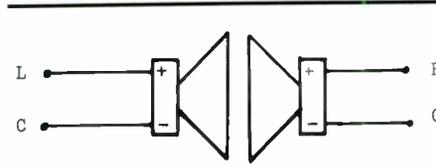
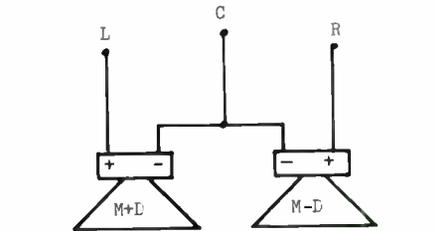

FIGURE 1: In the standard stereo speaker connection, two speakers are connected to two separate amplifiers. The independent impedance is Z .
FIGURE 2: With the common wires connected, the standard stereo system has a mono impedance, difference impedance and effective impedance of Z .
First, however, refer to Fig. 1, which shows the standard stereo speaker connection. Two speakers are connected to two separate amplifiers, each of which can be considered to have one wire with a signal and one wire as a common ground. This arrangement is redrawn in Fig. 2 with the common wires connected. Figure 1 shows that all of the left signal appears exclusively in the left speaker and all of the right signal in the right speaker. Figure 2 shows the left and right signals redefined. I used a monophonic signal, M , common to both channels, and a difference signal, D , which is the difference between the two channels.
I chose the configurations in Figs. 3-8 to maximize the extraction of ambient information, while keeping the impedances seen by the amplifier channels at or above the levels seen in the standard stereo connection. The impedance of each speaker in Fig. 1 is defined as Z, so each amplifier sees an independent impedance of Z.
Figure 2 is more difficult, however, since it has two signals to consider. The easiest way to figure the mono impedance seen by each amplifier is to mentally short point L to point R and compute the impedance between that point and point C. Doubling this value produces the mono impedance (MI). To find the impedance seen by the difference signal, mentally open-circuit (disconnect) point C and compute the impedance from point L to point R. Half of this value is the difference impedance (DI). The overall effective impedance, then, is given by the following formula:
Fig. 2 configuration, of course, but the values for Figs. 3-8 are somewhat different. The independent impedance is most easily found in Figs. 3-8 by shorting point R to point C and computing the impedance from that point to point L.